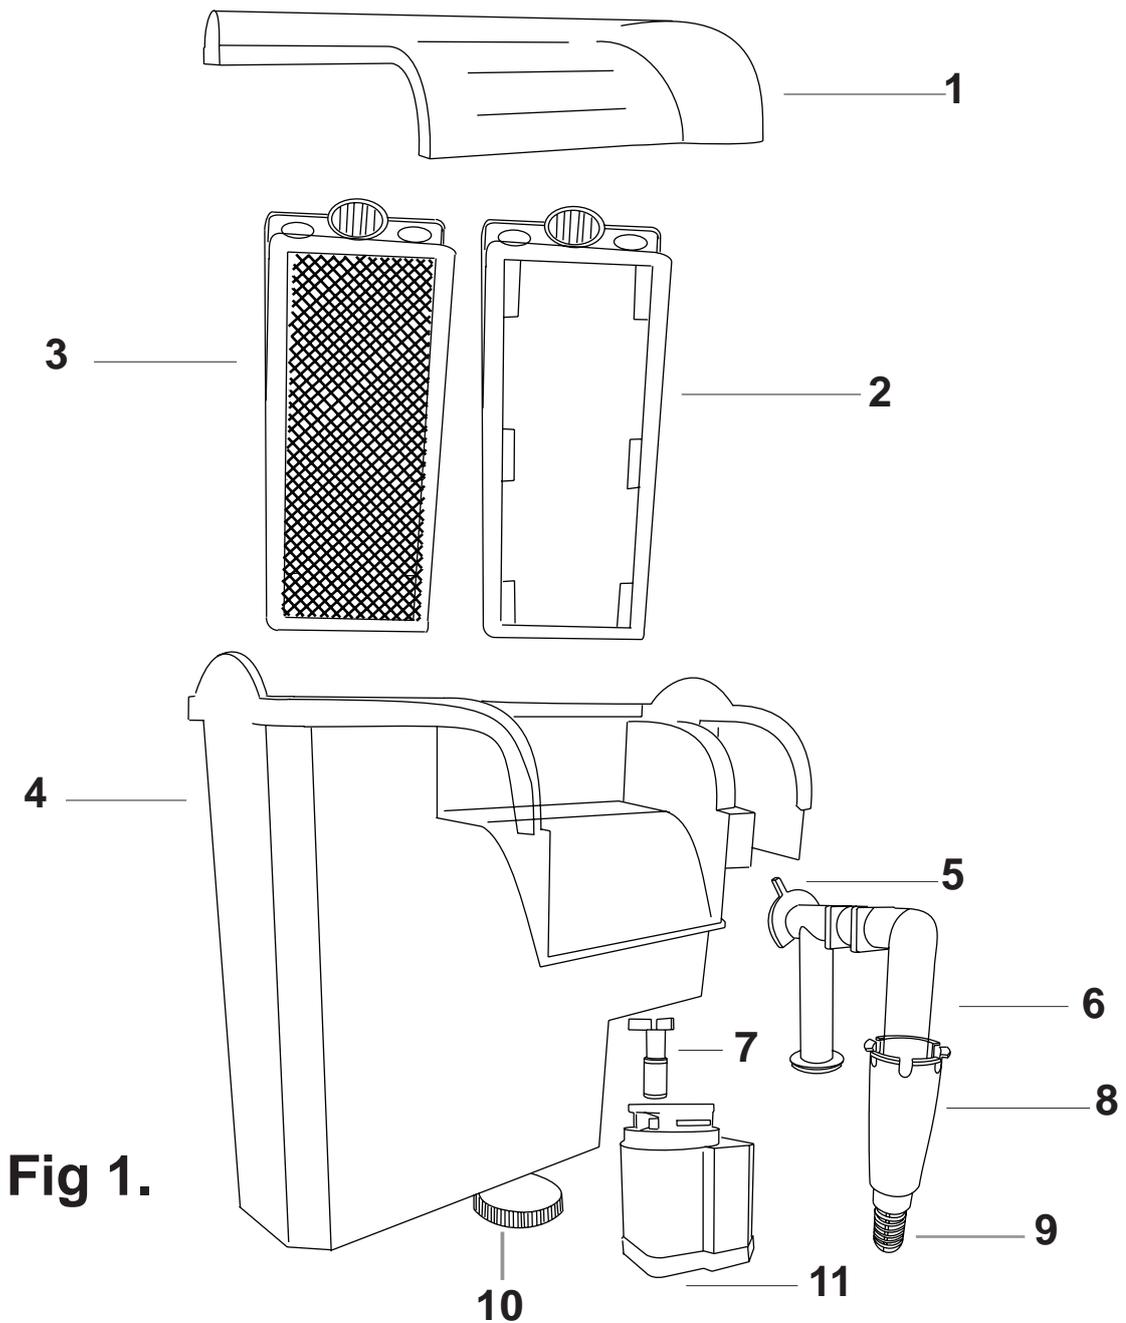

Fig 1.
5. Please refer to the cartridge layout and direction in Fig.1 . Please note the model HFX 70 only has one carbon cartridge.